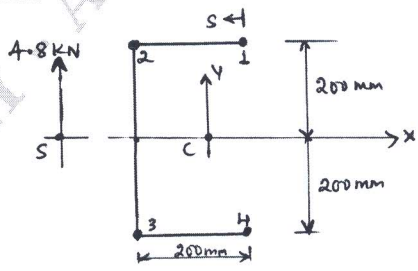

Fig.Q.3(b)
- b. Calculate the shear flow distribution in the channel section shown in Fig.Q.3(b). Produced by a vertical shear load of 4.8kN acting through its shear centre. Assume that the walls of the section are only effective in resisting shear stresses while the booms, each of area 300mm² carry all direct stresses. (08 Marks)